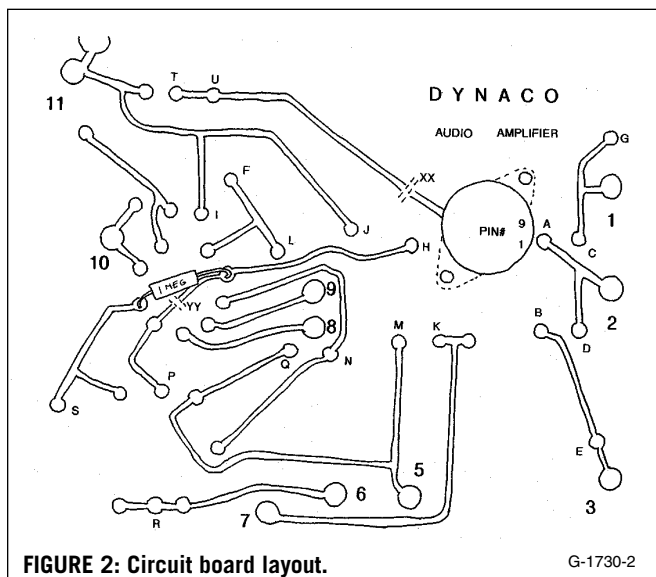

FIGURE 2: Circuit board layout.
Note (2) Pads lettered as shown on Fig. 2.
4. Now here is the tricky part. The board is old brittle phenolic, and you are going to drill a hole in it. Select a 9-pin socket that has its mounting flanges on the top. The object here is to cut as small a hole as possible and to have only the plastic part of the socket go through the board. Refer to *Fig. 2* and *Photo 2* for the approximate location of the hole.
I used a Unibit stepped drill to cut the holes in my boards, but you may consider drilling progressively larger holes with a series of drills. The material actually drills decently, but back the board up on a piece of wood and be careful of the drill grabbing. I have indicated the orientation of pins #1 and #9 (*Fig. 2*), but if you have a socket that needs to be oriented differently, it can be made to work.
5. Mount the components and the new tube socket (*Fig. 2*). Components go on the topside of the board unless otherwise indicated. Put the caps on last so you don't stab them with hot leads as other components are added to the board.